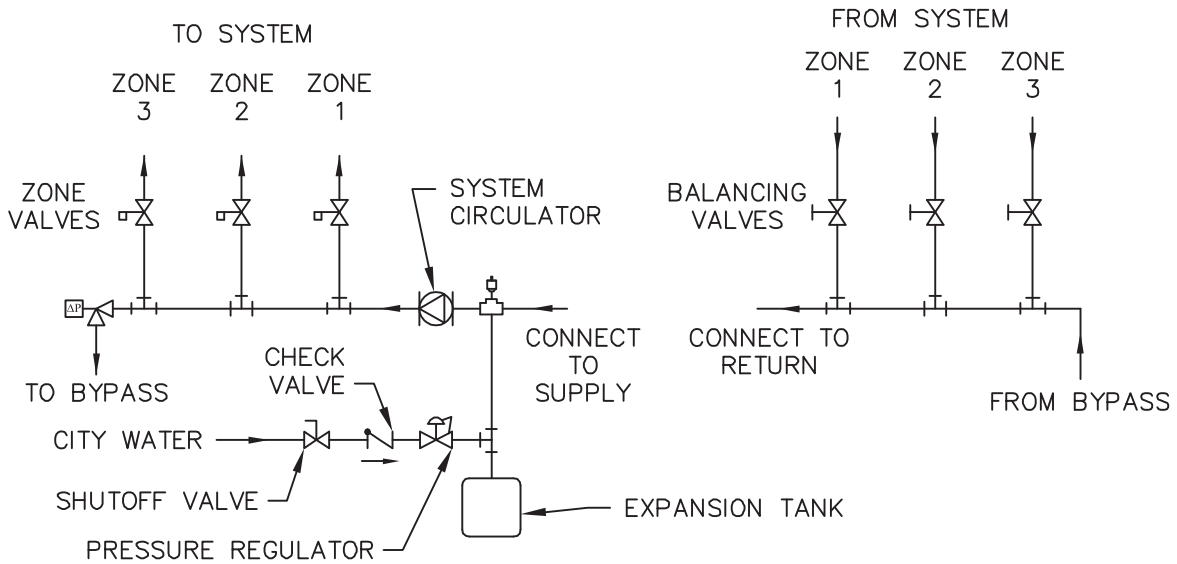

Figure 3.5: Zone Piping with Zone Valves
1. See Figures 3.5 and 3.6 for basic zoned system layouts.